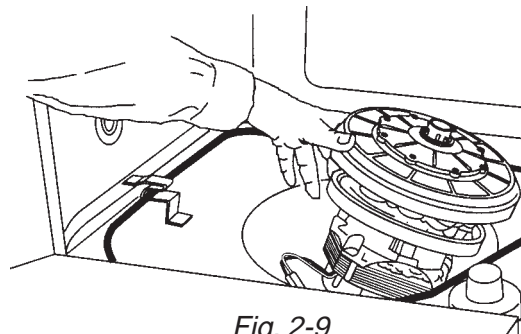

Fig. 2-9
6. Remove the pump and motor assembly by pulling up through the inside of the tub. (Fig. 2-9)